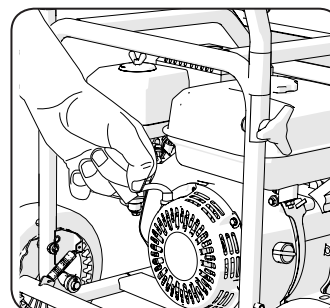

Fig 14
- Use your other hand to grip the recoil starter cord handle. (Fig. 14)